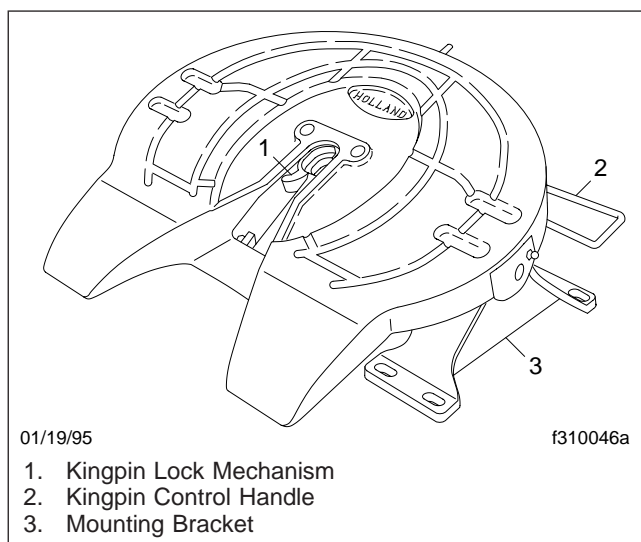

Fig. 10.1, Holland Fifth Wheel
The 2535 and 2536 sliding fifth wheel models incorporate a Model FW8, 3500 or 3600 fifth wheel (Fig. 10.1), equipped with an air-operated release slide, a double manual release slide, or a single manual release slide. Sliding fifth wheel assemblies are mounted on a baseplate which permits forward and rear movement along notched rails. Plungers are meshed into teeth on the baseplate to lock the sliding mechanism. Disengagement of the sliding member is accomplished when the plungers are withdrawn (manually or air-operated), releasing the fifth wheel assembly so that it can be positioned for optimum weight distribution over the tractor axles.
6. Release the kingpin locking mechanism by pulling the kingpin lock control handle (Fig. 10.1) to the outward position.